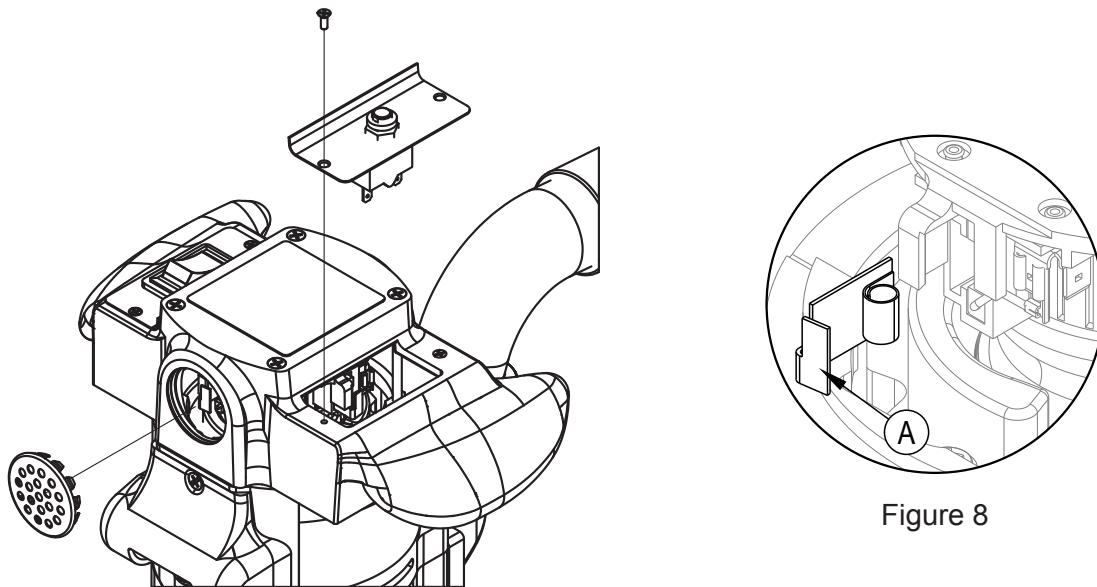

Figure 8
Inspect all four brushes every 6 months or 250 hours. Access to the brushes is gained through the front and back motor vent plugs and under both motor covers (figure 7). Press tab (A) on spring clip assembly in, rotate, then remove (figure 8). Use needlenose pliers to disconnect the shunt wire. If any brush has worn to 3/8" in length or shorter, replace the entire set.